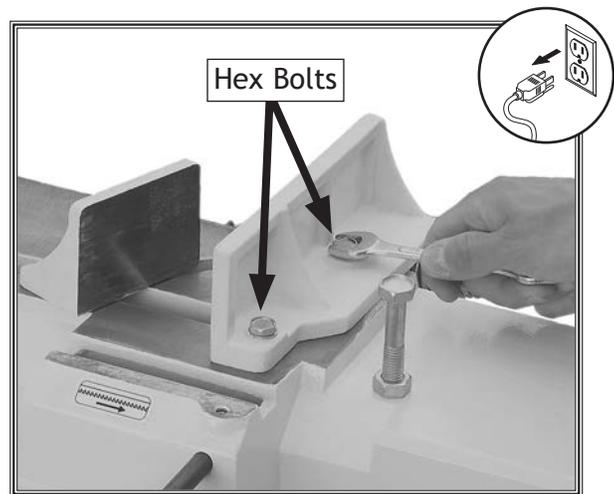

Figure 29. Loosening vise hex bolts.
2. Loosen the hex bolts on the stationary vise jaw, as shown in **Figure 29**.